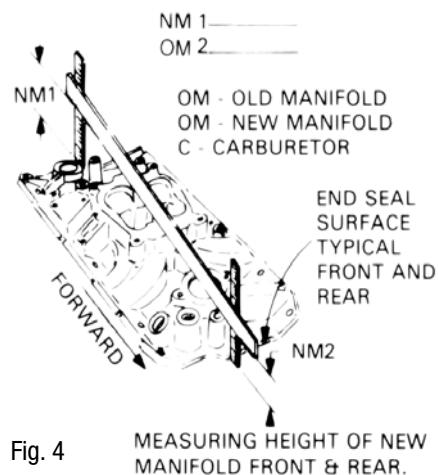

Fig. 4
7. Measure distance from end seal surface as you did on stock manifold. See Figure 4.